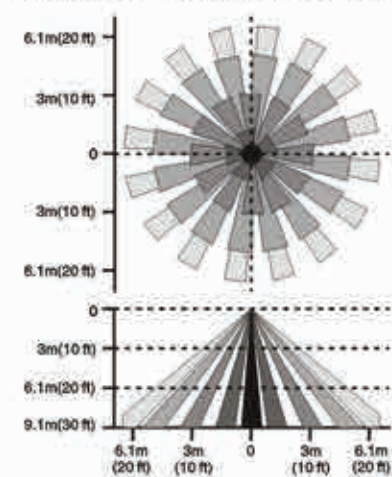

Fig1 Sensor Coverage Area
- 15 to 20 ft (4.57 to 6.1 m) radial coverage overlaps area lit by a typical high bay fixture (refer to Fig1).